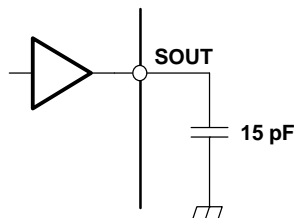

Figure 4. Test Circuit for  $t_{r0}$ ,  $t_{f0}$ ,  $t_{d0}$ ,  $t_{d1}$
(1) See Figure 4. Defined as from 10% to 90%
(3) See Figure 4, Figure 11